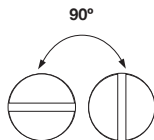

Figure 1
2. **Double measurement method:** This method involves performing two thickness measurements near a single spot rotating the ultrasonic sensor from  $0^\circ$  to  $90^\circ$  with respect to the split face (Figure 1). Take the smaller of the two indicated values as the thickness of the material.